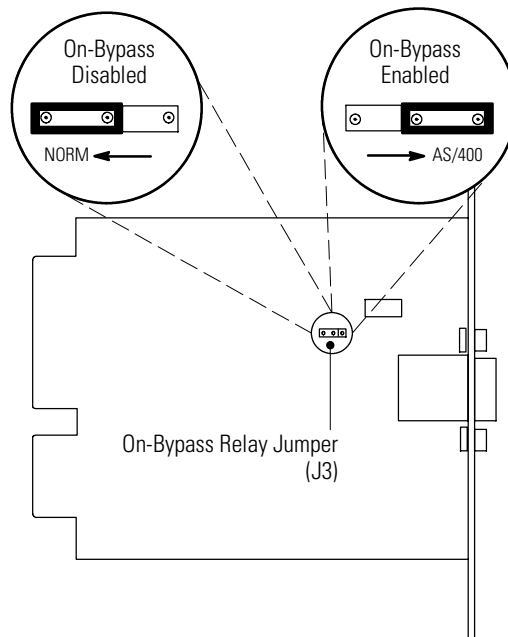

Figure 23. On-Bypass Relay Jumper
2. Move the J3 jumper to the AS/400 position to enable the On-Bypass relay as shown in Figure 23.